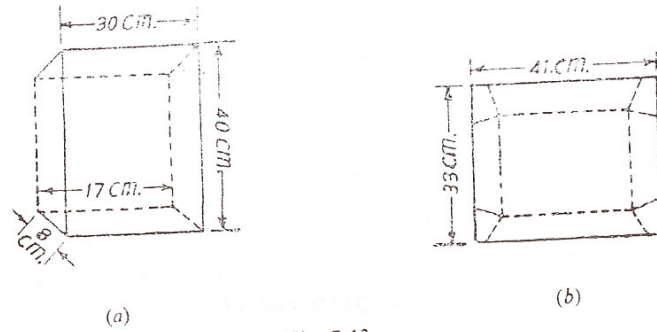

Figure 9.3 (a)
3. (a) The dimensions of steel tray made out of two ms. Sheets 24 gauge and size $3 \text{ m} \times 1 \text{ m}$ are show in Figure 9.3 (a). Calculate the total number of trays which can be formed by these two sheets and the cost of each tray, if: